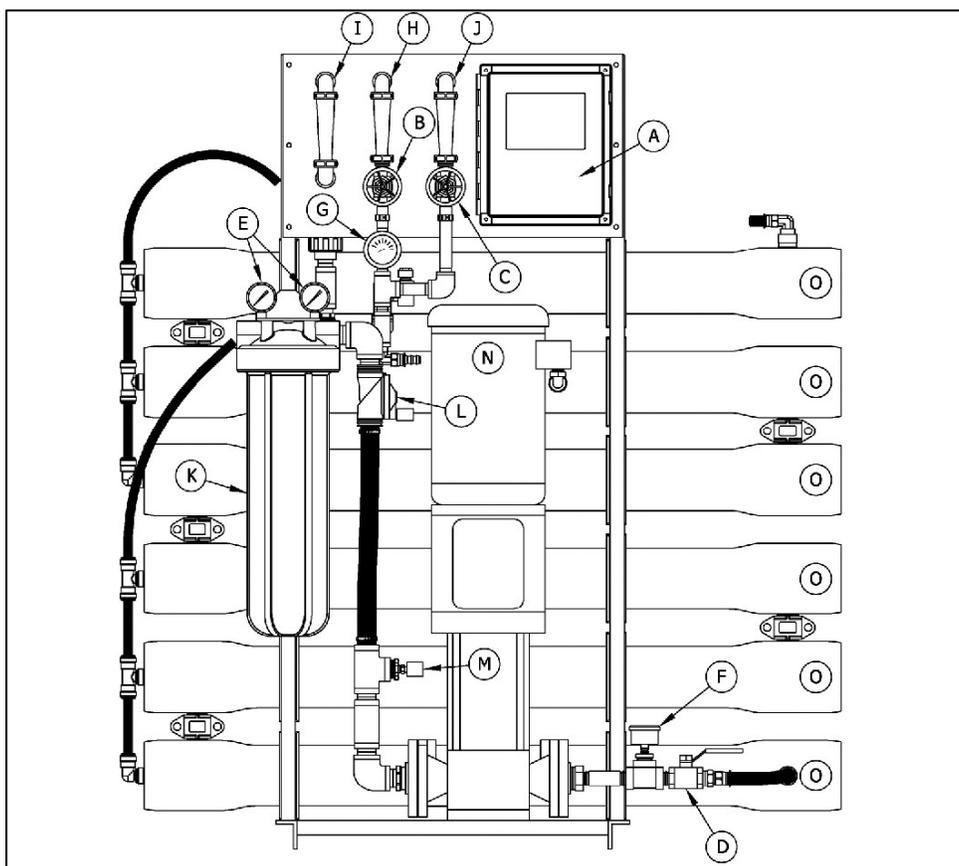

Figure 2-1: WQRS-005-R, -010-R and 015-RS System Components
1. Connect the pretreated feed water line to the inlet side of the prefilter housing (Figure 2-1, item A). A feed water shutoff valve should be located within 10 feet of the system.
2. Temporarily connect the outlet of the product water flow meter to drain (Figure 2-1, item B). The product water line should never be restricted. Membrane and/or system damage may occur if the product line is blocked.
3. Connect the outlet of the reject water flow meter to a drain (Figure 2-1, item C). The reject drain line should never be restricted. Membrane and/or system damage may occur if the reject drain line is blocked. An air gap must be located between the end of the drain line and the drain. The use of a standpipe or other open drain satisfies most state and local codes and allows for visual inspection and sampling.
2. Verify that the pump discharge valve (Figure 2-1, item D) is open.
3. Install the 20" five-micron filter cartridge in the prefilter housing. (Figure 2-1, item K)
4. Open the reject control valve completely (Figure 2-1, item B) by turning it counterclockwise. Close the reject recycle control valve completely (Figure 2-1 item C) by turning it clockwise.
6. Manually open the inlet solenoid valve (figure 2-1, item L) by turning the white lever located near the valve outlet.
7. Water will flow through the system and drain through the reject flow meter (Figure 2-1).
9. Close the pump valve halfway. (Figure 2-1, item D)
13. Adjust the reject control valve(s) (Figure 2-1, items B & C) and the pump discharge valve (Figure 2-1 item D) until the desired flows are achieved. Closing the reject valve increases the product flow and decreases the reject flow. Opening the pump discharge valve increases both the reject flow and the product flow. See the flow rate guidelines and Temperature Correction table in the Appendix to determine the flow rates for different operating temperatures.
15. Turn off the system and connect the product line to the point of use. (Figure 2-1 item I) The product water line should never be restricted. Membrane and/or system damage may occur if the product line is blocked.
3. Install the 5-micron cartridge in the prefilter housing (Figure 2-1, item M).